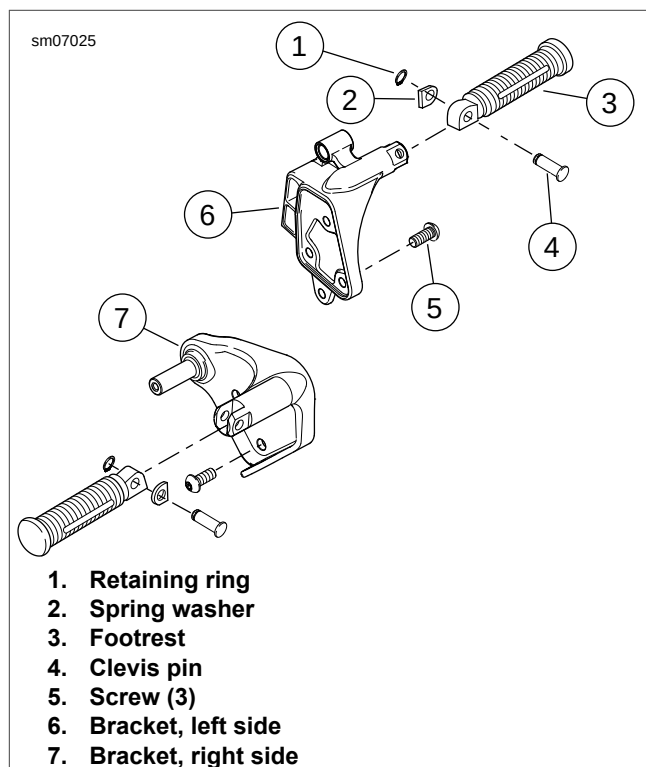

Figure 2-123. Rider Footrests
- See Figure 2-123. Remove retaining ring (1) and clevis pin (4). Pull footrest (3) and spring washer (2) from support (6 or 7).
1. See Figure 2-123. If support (6 or 7) was removed, install with screws (5). Tighten to 29-34 ft-lbs (39.4-46.1 Nm).
2. Place footrest (3) and spring washer (2) into position on support (6).
3. Install clevis pin (4) and **new** retaining ring (1).